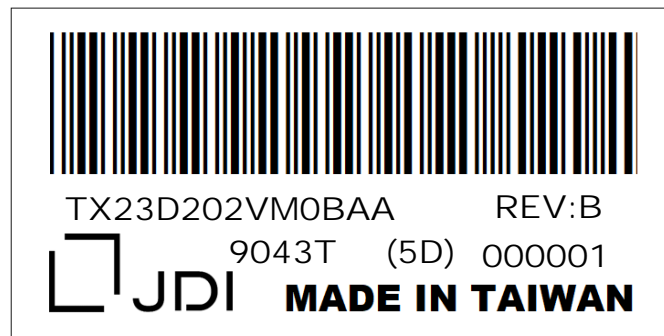

Fig. 13.1
1) The lot mark is showing in Fig.13.1. First 4 digits are used to represent production lot, T represented made in Taiwan, and the last 6 digits are the serial number.
4) The location of the lot mark is on the back of the display shown in Fig. 13.1.